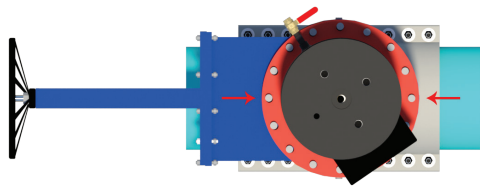

Figure 12 — Alignment nut placement for insertion housing alignment
**3.1.2)** Thread 2 alignment nuts onto the studs which connect the insertion housing to the temporary gate valve. Place these nuts at the locations shown (see Figure 12 on following page). Install alignment nuts so that the tapered part of the nut enters the flange hole. This may require adjustment of the tapping / installation housing.